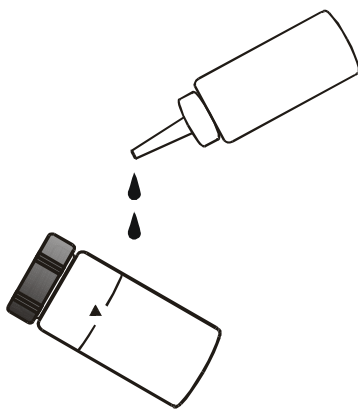

Figure 9: Apply a thin film of silicone oil
7. Apply a thin film of silicone oil (supplied) on the sample vial (see Figure 9). Wipe with a soft cloth to obtain an even distribution over the entire vial's surface.